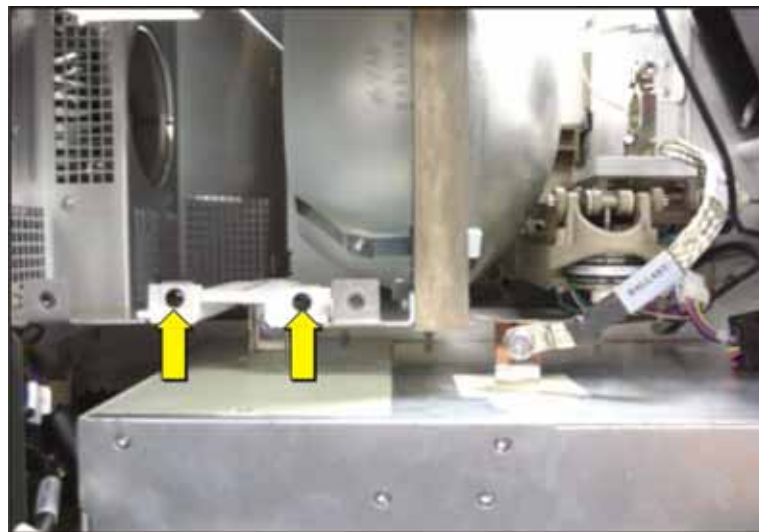

Figure 5-25 Remove Anode Cover
7. Using a #2 Phillips™, loosen the two captive screws securing the lamp anode cover and remove the cover (**Figure 5-25**).